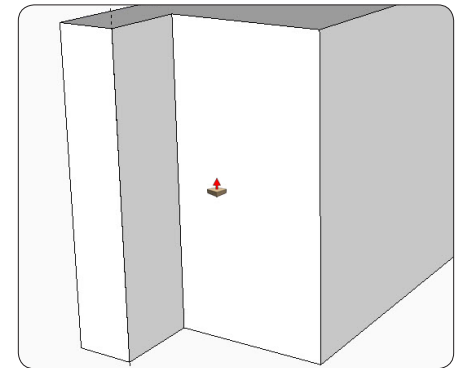

Figure 20. After drawing a line over the guide line, use the Push/Pull Tool to create the cutout.
Step 17 Select the Line Tool. Use it to draw a vertical line over the guide line. Select the Push/Pull Tool. Use it to push the cutout to a depth of 1 in., as shown in Figure 20. Delete the guide line.